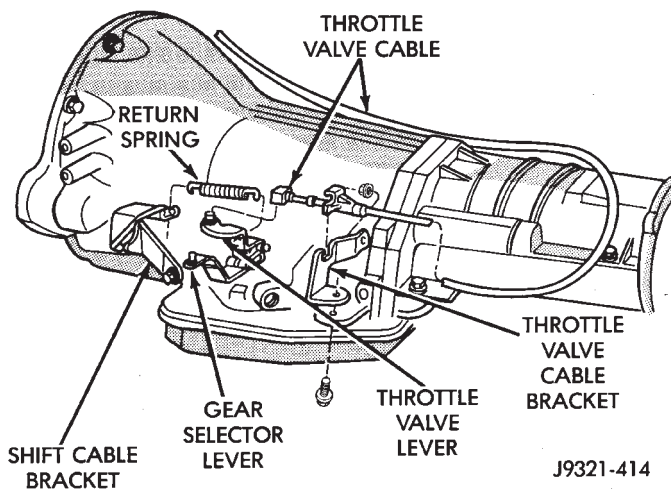

Fig. 3 Throttle Cable Attachment At Transmission
- Verify that lever on throttle body is at curb idle position. Then verify that transmission throttle lever (Fig. 3) is also at idle (fully forward) position.